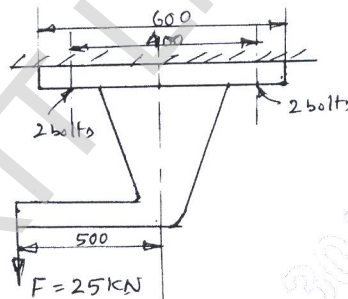

Fig.Q9(b)
- b. A bracket is fixed to the support using four bolts as shown in Fig.Q9(b). Select the suitable size for bolts if the allowable tensile stress in the bolts is 120 MPa. (08 Marks)